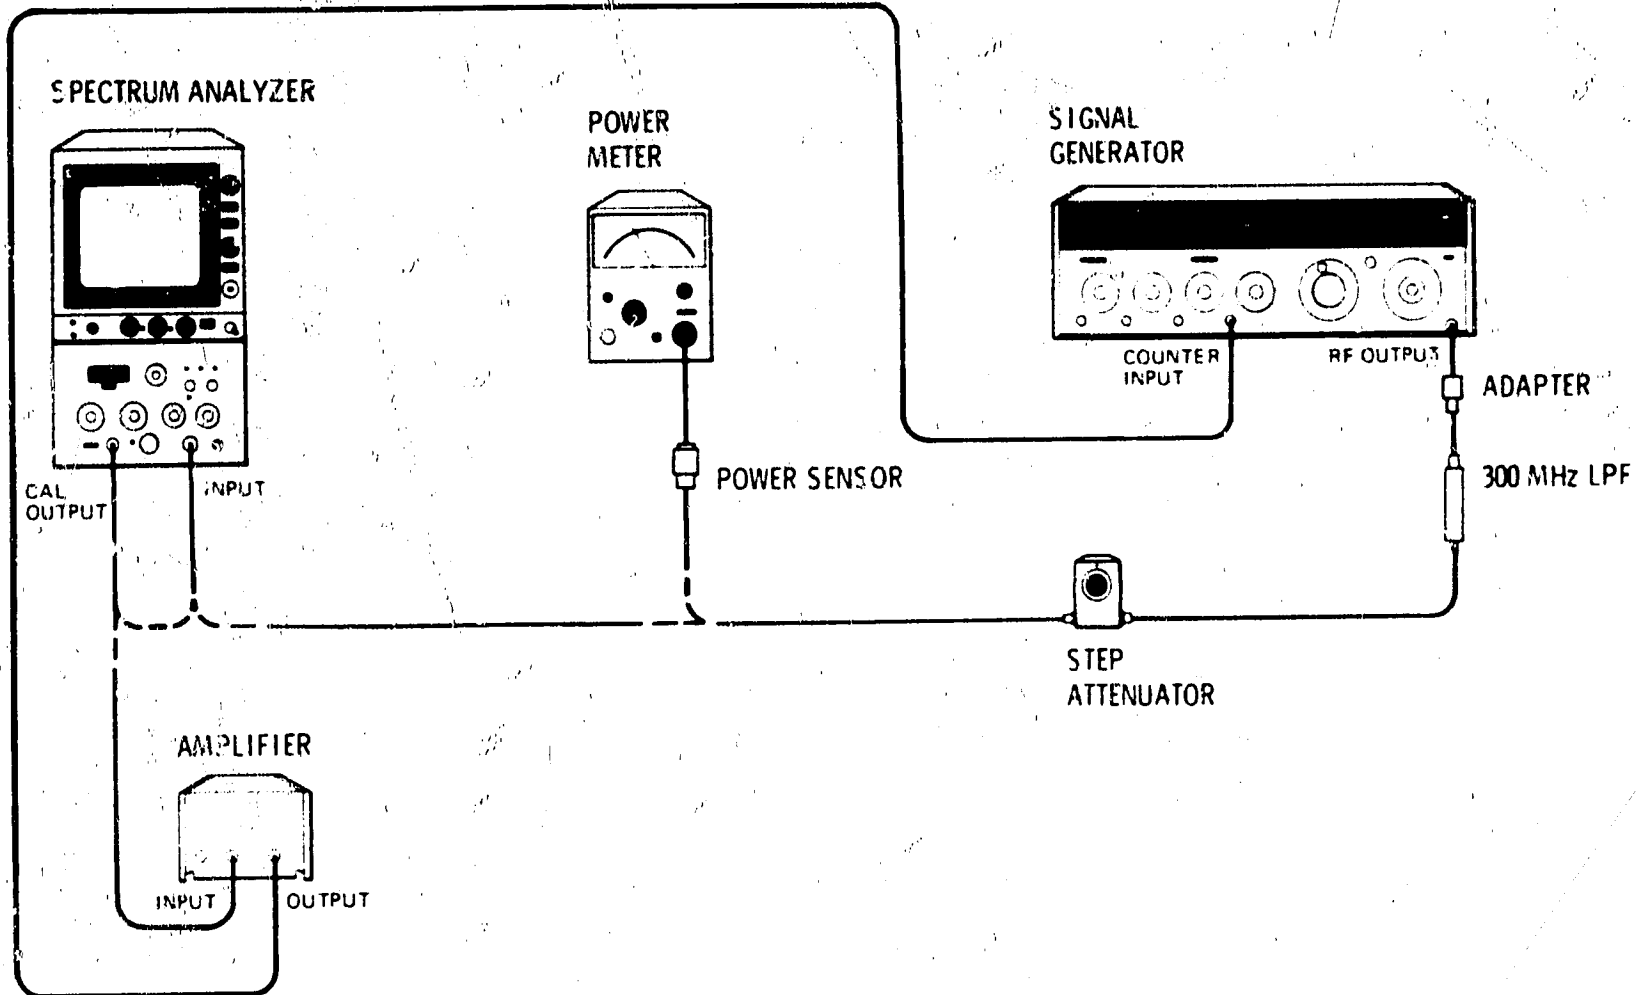

Figure 4-22. Calibrator Accuracy Test Setup
4. Set the step attenuator to 10 dB and connect the power sensor and power meter to the attenuator as shown in Figure 4-22.